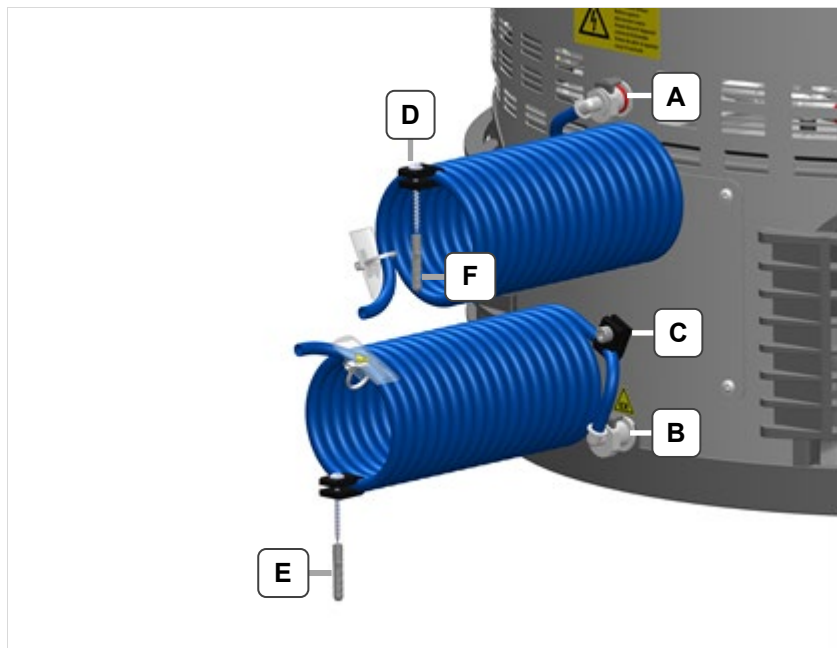

Fig. 4.3.1 Ventilation connections
Due to the process, vapours of the cleaning and rinsing media discharge at the openings provided for them on the rear side of the cleaning machine (*Fig. 4.3.1.A/B*). This area is considered as an area with increased risk of explosion if the safety precautions are not complied with.
1. Connect the 2 exhaust air tubes (included in the scope of delivery) to the respective connections *Fig. 4.3.1.A* and *Fig. 4.3.1.B*. In doing so, the connection coupling must audibly engage in each case!
2. Fix the exhaust air tubes using the fixing clamps provided for them. *Fig. 4.3.1. C*
2. Fix the exhaust air tubes using the fixing clamps provided for them. *Fig. 4.3.1.C*.
3. It is possible to fix the exhaust air tubes using the fastening material (included in the scope of delivery, *Fig. 4.3.1.D,F,G*).